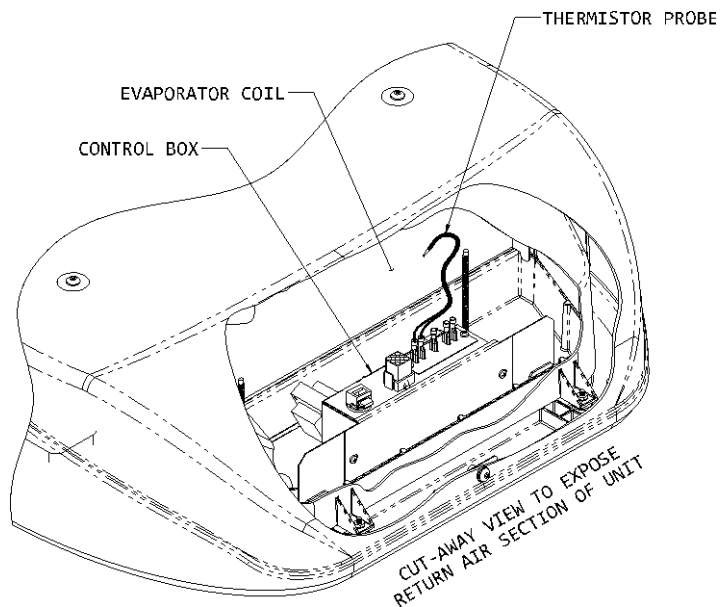

**FIGURE 6**
2. For installation on 48000 and 49000 series units, position the heater assembly into the return air opening as shown in Figure 7. Insure that the set screw is retracted sufficiently to allow installation over the basepan extrusion. The heater bracket **must be installed between the basepan and the plastic drain pan** (See Figure 6). Tighten set screw to secure the assembly so as to prevent movement. 47000 series units will mount as shown in Figure 9 using wing nuts.